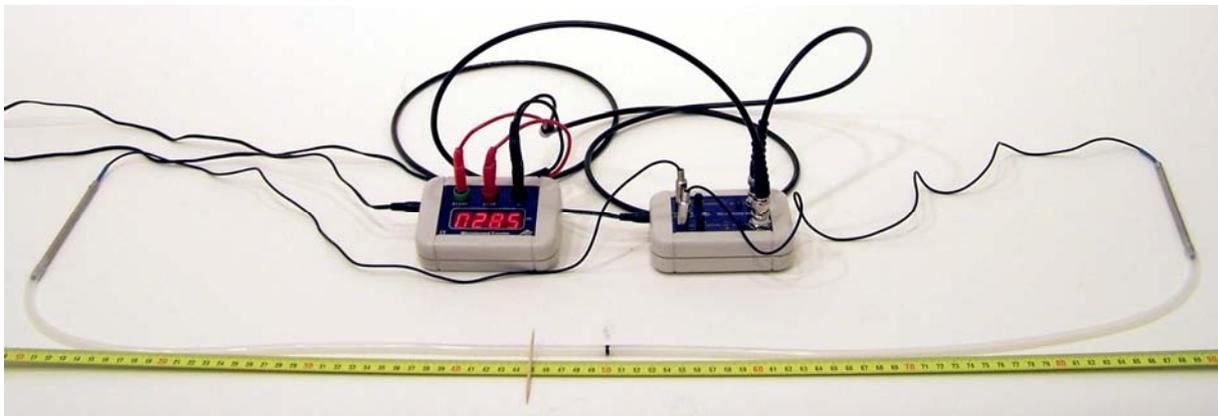

Fig. 1: Measurement of difference in time for sound to reach two microphones using the microsecond counter.
- Insert each of the two microphone probes about 1.5 cm into the ends of the 1-m tube and use the metre ruler to ensure that the mid-point between them is at the 50 cm mark on the ruler, which should also coincide with the centre of the tube, as already marked (Fig. 1).